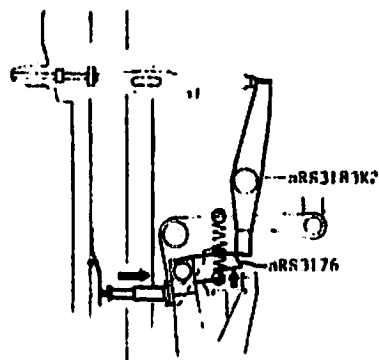

Fig. 75
- (1) Coupling plate (aRS3176) is connected with No. 3 lever (aRS3183K2). (Fig. 75)